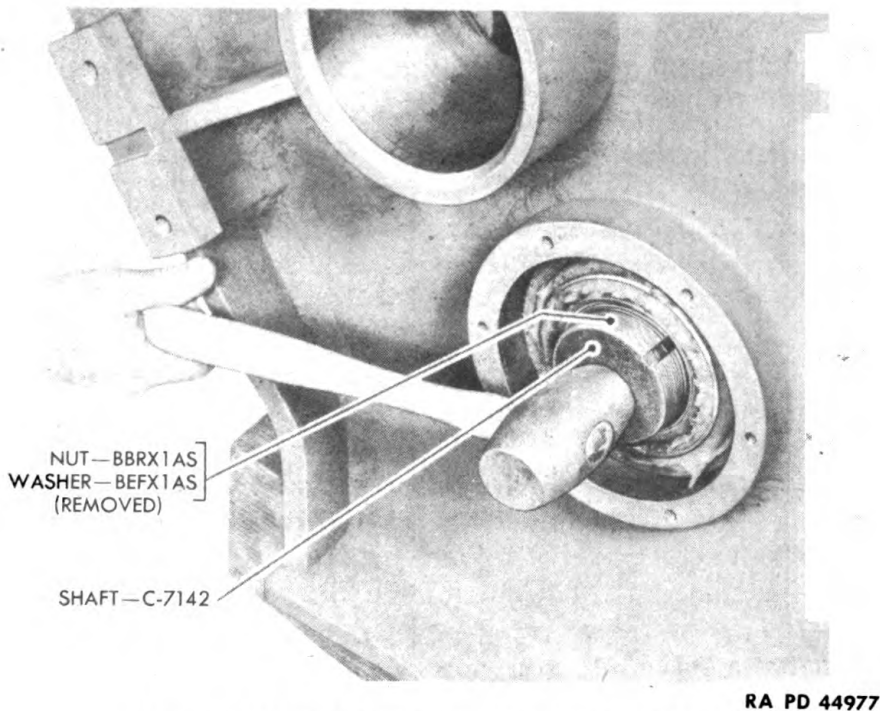
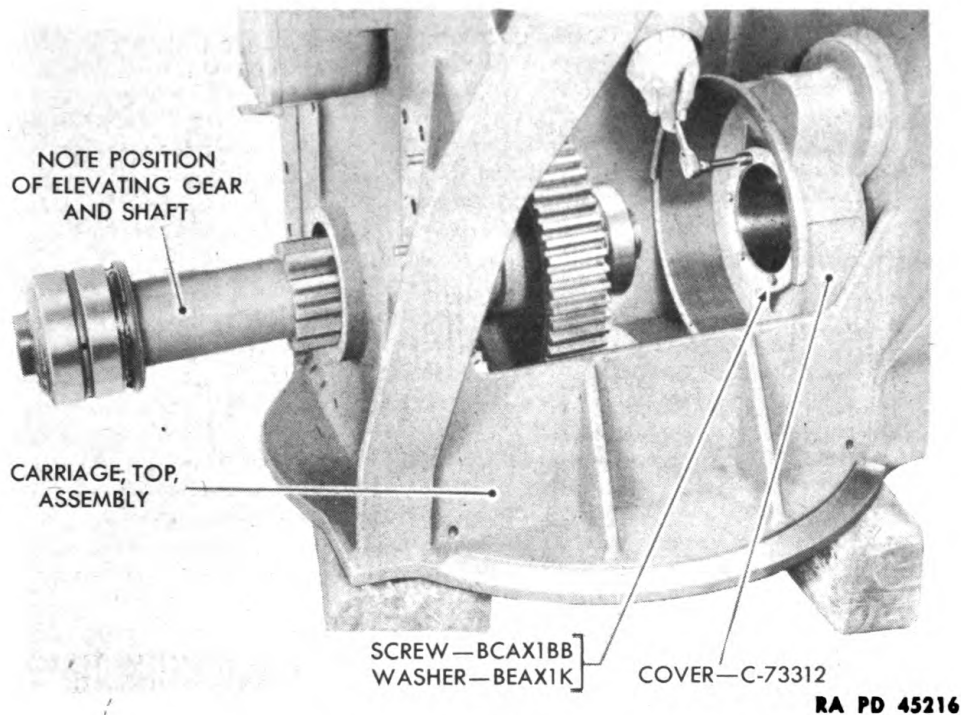

Figure 169—Removing Elevating Shaft
Figure 170—Removing Elevating Gear Cover Screws
(5) Drive shaft C7142 back through top carriage from the right side (fig. 169). Shaft will come out left side of top carriage. Bearings B104910, seals A171326, and rings B158241 will remain on shaft. Slide shaft over to left and balance it in the left end cover opening so that the elevating gear cover C73312 can be removed (fig. 170).
(6) Remove six screws BCAX1BB and washers BEAX1K. Remove cover C73312 (figs. 170 and 183).
(7) Install gear puller C74750 in gear C7143 and tighten center screw of puller up against end of shaft C7142. Force right-hand bear-